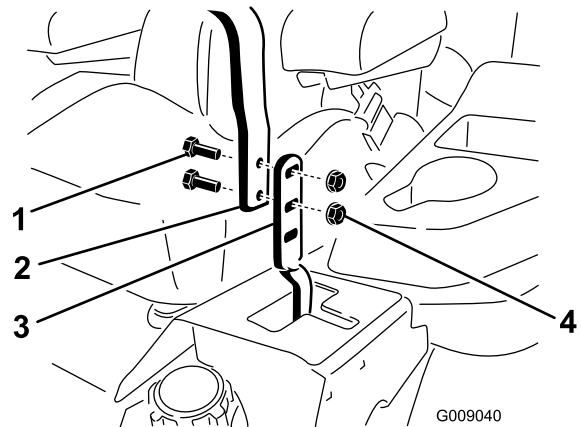

Figure 73
3. Loosen the bolts and flange nuts installed in the levers (Figure 73).